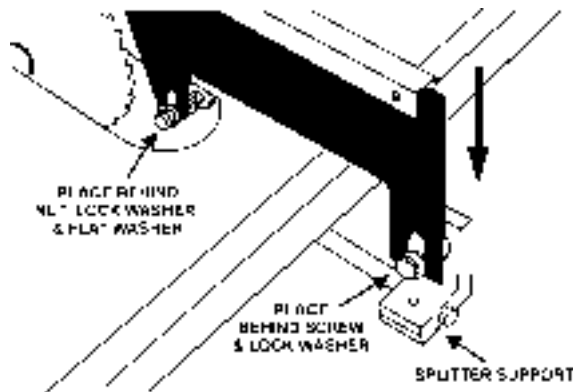

FIGURE 5
3. Mount the splitter assembly to the two adjusting screws, Figure 5. Place the two flanges of the splitter assembly onto the screws as shown.